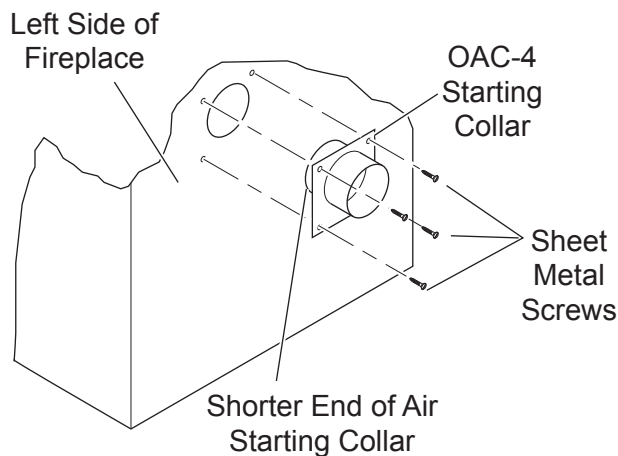

Figure 13 - Attaching Outside Air Starting Collar to Left Side of Fireplace
2. Place starting collar (4") into hole on left side of fireplace. Fireplace shortest side of air starting collar through fireplace outer wrap. Fasten starting collar in place with four (4) sheet metal screws provided. *See Figure 13.*